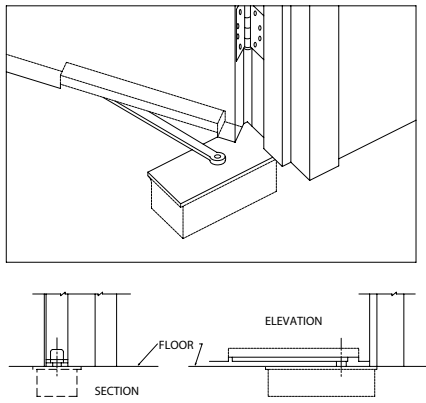

FIGURE 14a
2. Floor Closers, Figures 14a-14c, generally are more durable than overhead closers and provide concealed closing mechanisms, often appropriate for doors having a high frequency of use.